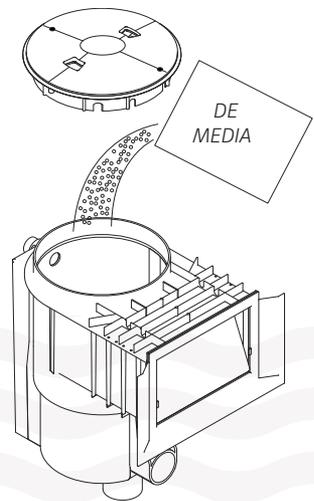

FIGURE 7
3. When the DE is no longer visible in the skimmer, return the valves to their normal positions, and replace the skimmer basket. (See Figure 7)